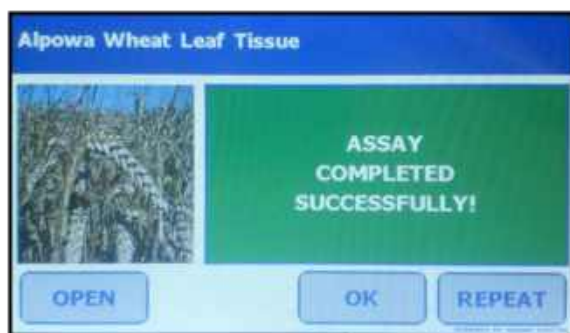

Figure V-8: Confirmation Screen for Completion of Recommended Program Assay Run
8. Upon completion of the assay, the FP-24 5G screen will display the message “ASSAY COMPLETED SUCCESSFULLY” (Figure V-8).